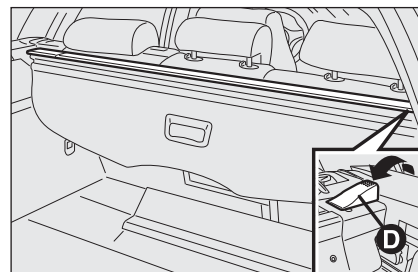

fig. 22
- keep the lever **D-fig. 22** up and fit the net into the proper seat on the right side;